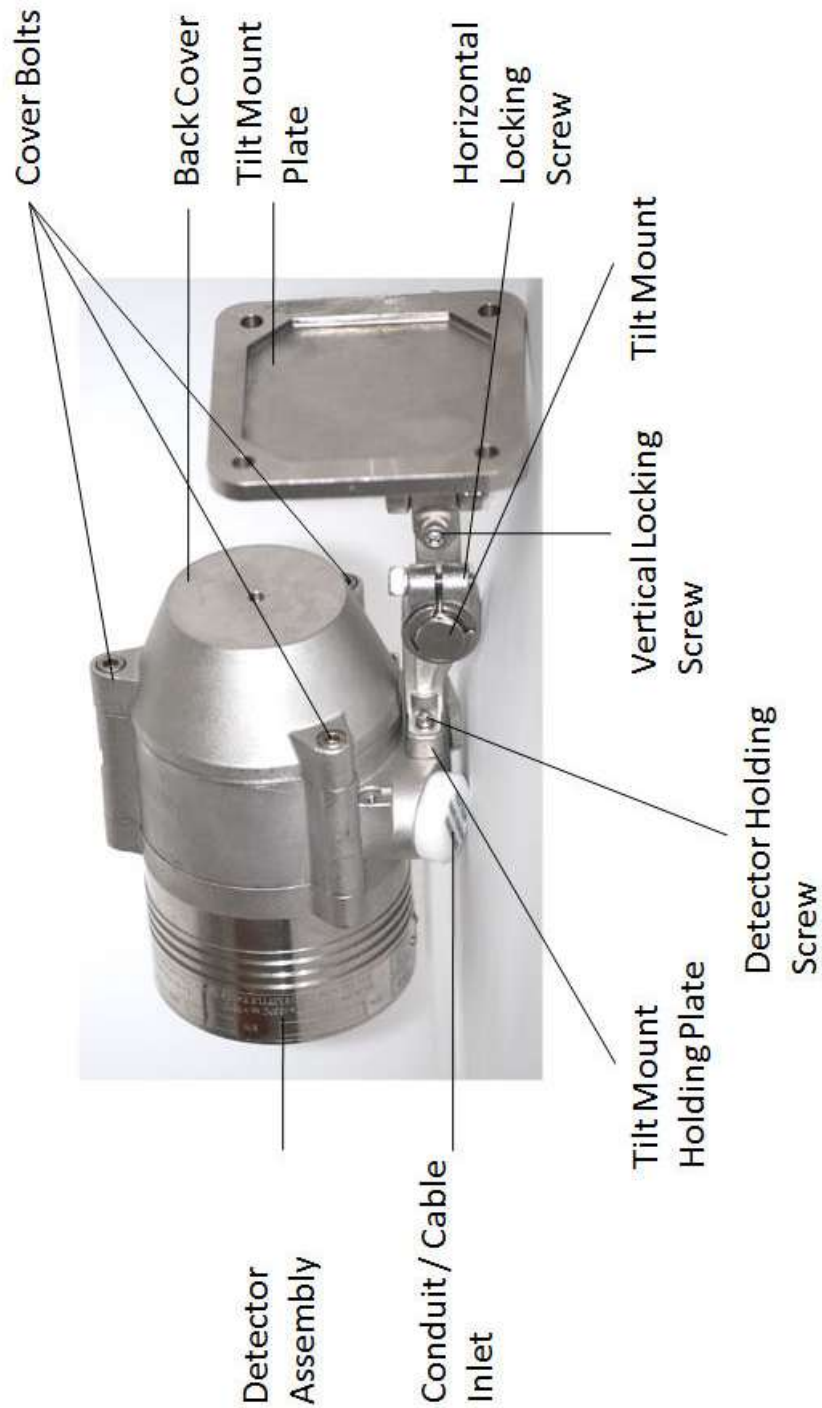

Figure 3: Detector with Tilt Mount
The Tilt Mount enables the detector to be rotated up to 60° in all directions. Figure 3 shows the Detector mounted on the Tilt Mount.
- 9 Place and secure the detector's back cover by screwing the three (3) socket-head-screws in the Cover Bolts (Figure 3).